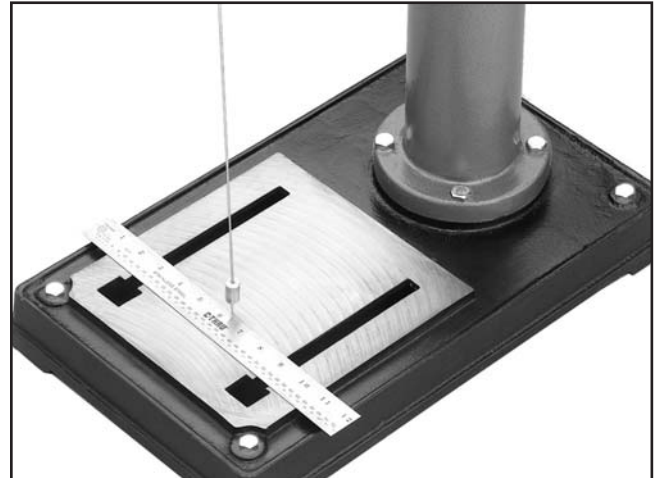

Figure 12. Aligning headstock with base.
3. Place a ruler or tape measure on the base and suspend a plum bob from the center of the headstock spindle so it is over the tape/ ruler as shown in **Figure 12**.